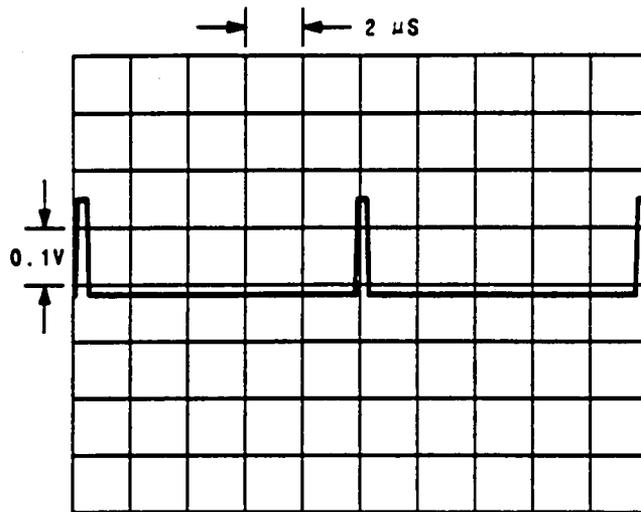

Figure 8. Oscilloscope Display of TP22 (dc coupled), Sample and Hold Pulse, W6 removed, Signal Generator's frequency is 950 MHz, Low Frequency Loop is unlocked.
3. If +5 volts is not present at TP23, check the Sample and Hold pulse at TP22 (SAMPLE). Verify that the waveform in Figure 8 is correct.